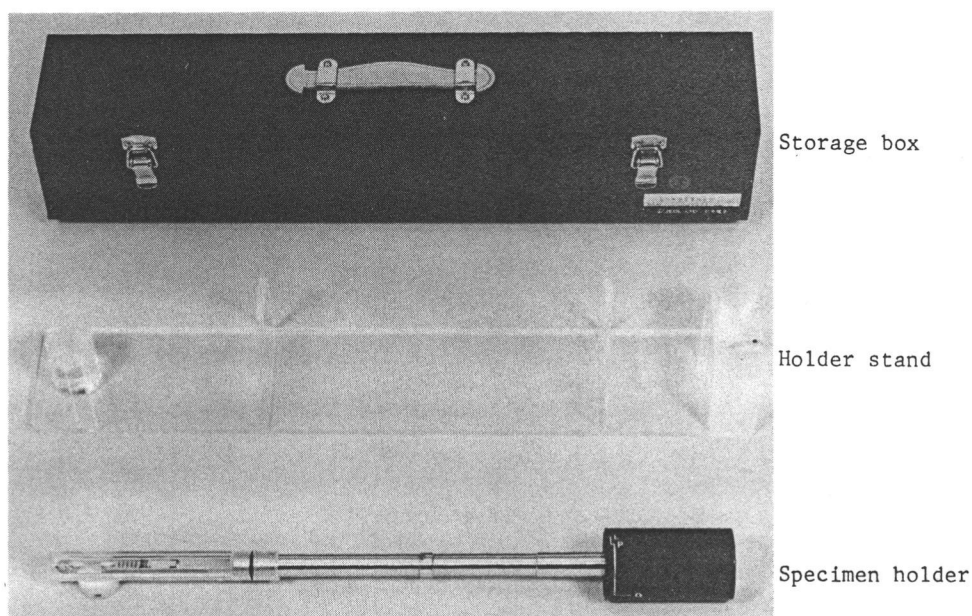

Fig. 3
6. Exchange the specimen (see Subject. 1.4), and insert the specimen holder into the column (see Subject. 1.5). When another specimen holder (optional attachment) is to be used, cap the EM-SCSH40 holder with the protector and store the holder in the exclusive storage box (Fig. 3).